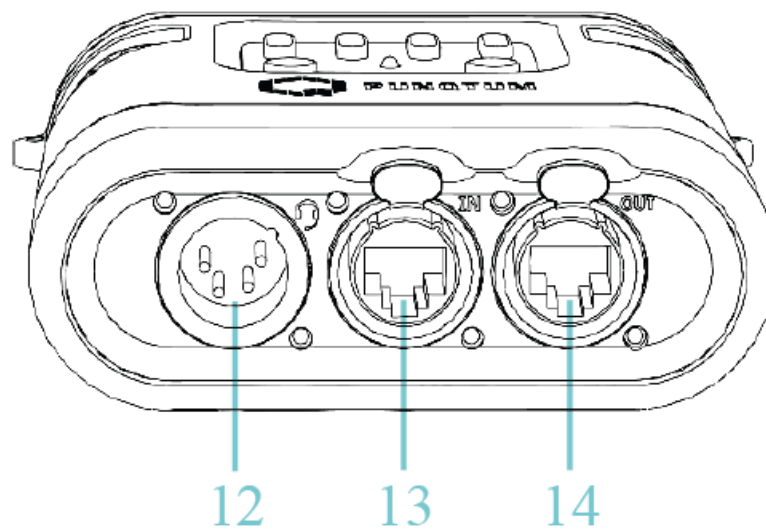

Figure 2
Channel volume control can be set by the rotary encoder knobs (11 on Figure 2) on the side of the Beltpack. Moving the rotary knob clockwise will increase the volume, counter-clockwise operation will decrease the volume.
An active TALK function is indicated in the display per Channel. Use the TALK Buttons (item 2 on Figure 2) to switch on and off the TALK status of each Channel.
**CALL active indication (D)**